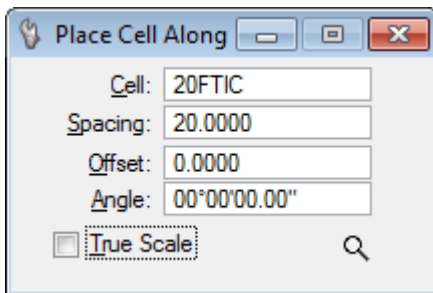

Figure 7-7: Place Cell Along Dialog
When the dialog opens, enter the desired spacing for the tick marks. Defaults are 100'. (Figure 7-7)
- 🎵 The normal text for stationing is 100 feet, but if you have a really long job, maybe you might want to space them at 1000 feet or another even increment. Be sure that the *Offset* and *Angle* are both set to “0”. (Figure 7-7)